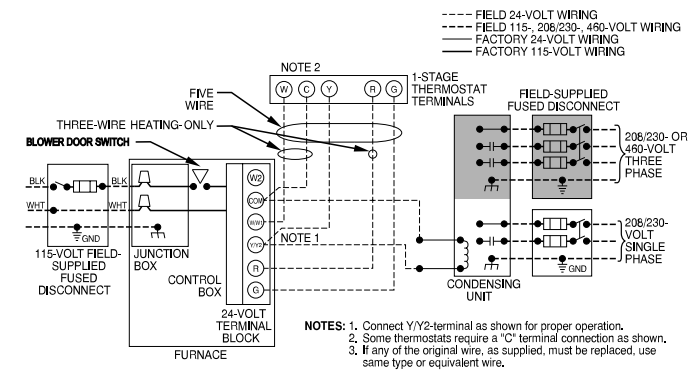
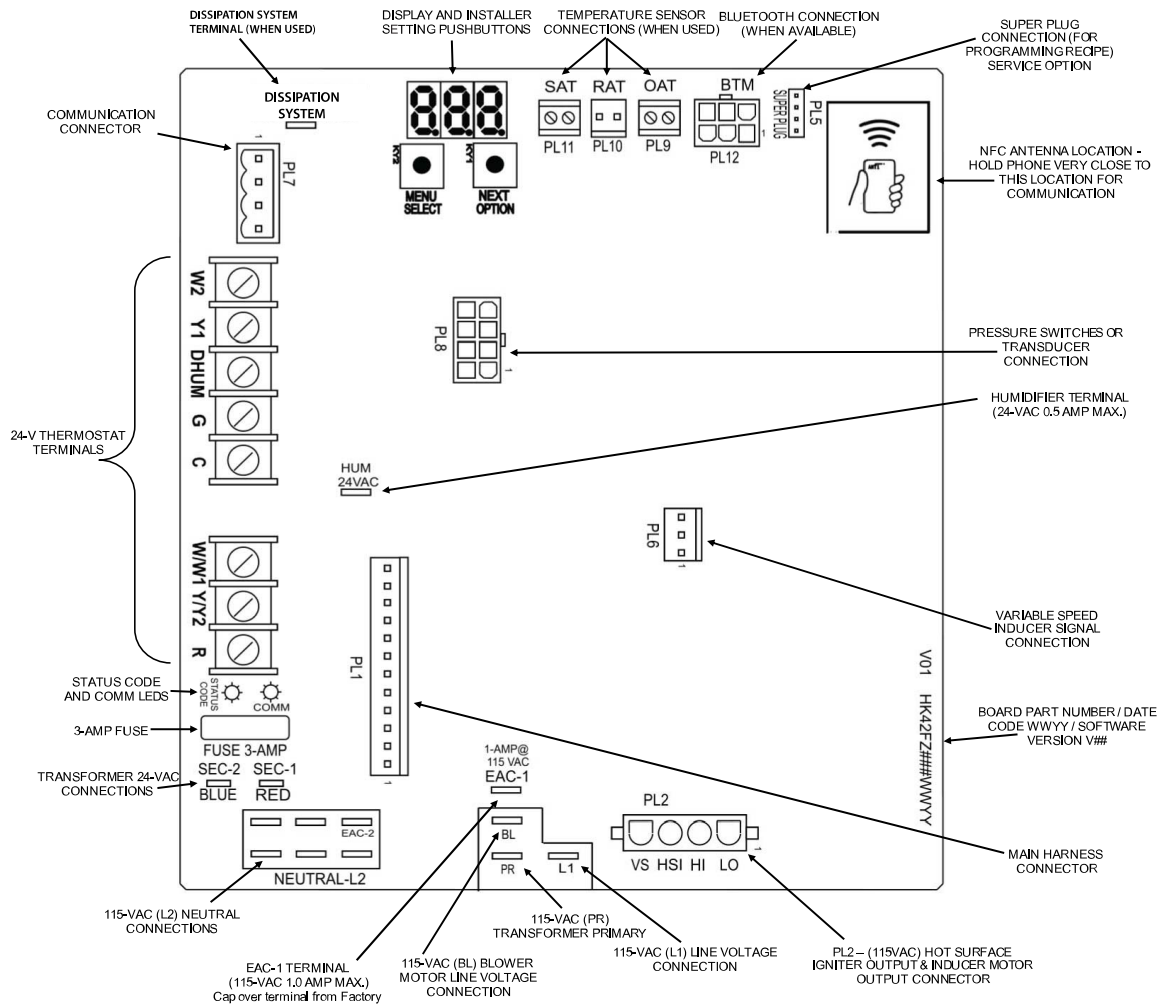

Fig. 38 – Typical Single-Stage Wiring Diagram
Fig. 42 – Example of Furnace Control
Field wiring diagram showing typical field 115-V wiring, see Fig. 38. Check all factory and field electrical connections for tightness.
Make field 24-V connections at the 24-V terminal strip, see Fig. 42. Connect terminal Y/Y2, see Fig. 38, for proper cooling operation. Use only AWG No. 18, color-coded, copper thermostat wire.
The 24-V circuit contains an automotive-type, 3-amp. fuse located on the control. Any direct shorts during installation, service, or maintenance could cause this fuse to blow. If fuse replacement is required, use **ONLY** a 3-amp. fuse of identical size, see Fig. 38.
A single stage heating and cooling thermostat can be used with the furnace. The furnace control board CPU will control the outdoor unit staging. A 2-stage thermostat can also be used to control the two-stage cooling. For 2-stage thermostat control of a 2-stage outdoor unit, set (C¹E) to (C²E). Refer to typical thermostat wiring diagrams and the Sequence of Operation section for additional details. Consult the thermostat installation instructions for specific information about configuring the thermostat., see Fig. 42 and Thermostat wiring
NOTE: If the humidifier has its own 24 VAC power supply, an isolation relay may be required. Connect the 24 VAC coil of the isolation relay to the HUM and COM/24V screw terminal on the control board thermostat strip, see Fig. 42.
3. Communication Connector (communication connection) This connection is used when the furnace is controlled by an optional communicating User Interface instead of a standard thermostat. The communication plug is supplied with the User Interface. Refer to the instructions supplied with the User Interface for complete details, see Fig. 42.